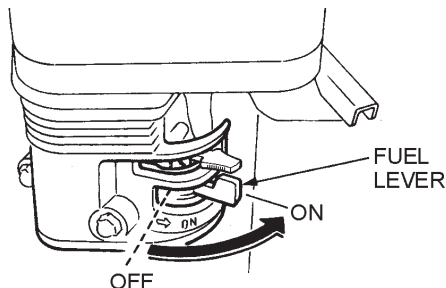

Figure 16. Engine Fuel Valve Lever
1. Place the engine **fuel valve lever** (Figure 16) to the "ON" position.